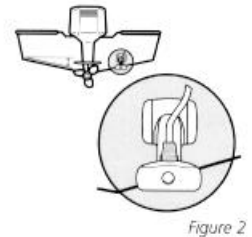

Figure 2
- The transducer when mounted should point straight down. The design of the transducer will accommodate a wide range of deadrisers and remain ported straight down (Figure 2).